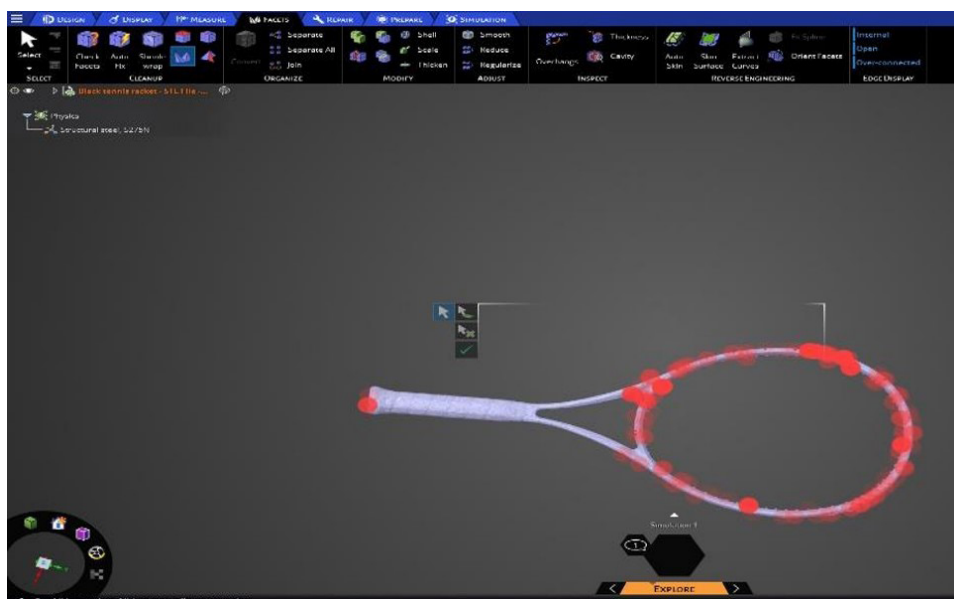

Figure 6: “Fix Sharps” errors within scan data
4. Use the “Fix Sharps”, “Over-Connected”, “Holes”, and “Intersections” cleanup tools to identify and manually fix any remaining errors if necessary (Figure 6).